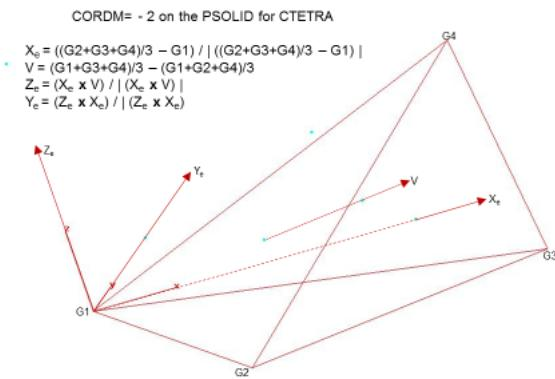

Figure 9-71 PSOLID on CTETRA
10. The internal coordinate system of the element is used internally and is based on eigenvalue techniques to insure non bias in the element formulation. For stress/strain output this internal coordinate system (CORDM=-1 on PSOLID entry) is hard to visualize. Thus a CORDM=-2 on the PSOLID is available as shown in Figure 9-71.